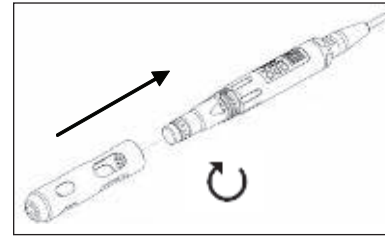

Figure 4
3. Reinstall the probe guard by sliding it carefully over the sensor and then threading it onto the cable/probe assembly with a clockwise rotation (Figure 4).